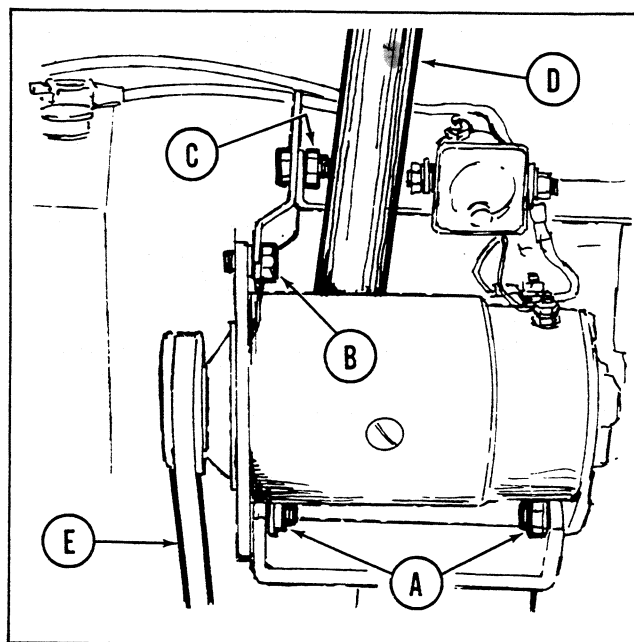

Figure 16. Generator located on right side of engine.
See figure 16. If the starter turns, but the engine does not rotate, the starter generator belt may need tightening. Proceed as follows:
2. See figure 16. Loosen slightly the two nuts (A) cap screw (B) and nut (C). Use a pry bar (D) similar to the one shown between the generator and engine block to apply pressure to the generator and tighten the belt. The belt should be tight enough so thumb pressure at (E) will deflect it about 1/4".
3. While holding the pry bar to maintain tension on the belt, tighten the mounting bracket at (C) securely.
4. Actuate the starter to make sure the engine will rotate. If it does not, loosen the nut at (C) and apply more tension to the belt.
5. Tighten the two nuts at (A) and the cap screw (B) securely.